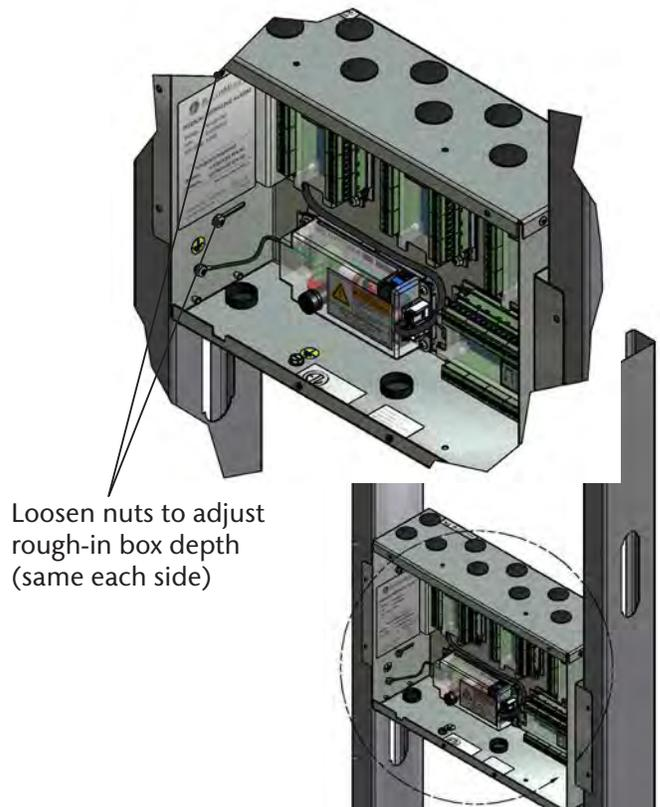

Figure 16: Mounting Bracket Adjustment
2. Remove cardboard dust cover and DISS tube assemblies (if included) and insert alarm rough-in box into wall opening. [Secure with fasteners suitable for vertical supports (Figure 16)].
3. Mounting brackets on each side of rough-in box are adjustable and factory preset for 5/8" thick drywall. After drywall installation, front edge of rough-in box should be flush with finished surface of wall. If needed, make any necessary bracket adjustments at this time (Figure 16).